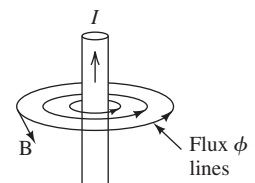

FIGURE 12.2 Magnetic field around a wire.
Magnetic fields are created around current-conducting wires and permanent magnets. The field is created by electrical charges in motion. In a permanent magnet, this charge in motion is caused by the spin of electrons in the atoms. If the direction of motion of each electron is random, the atomic fields created by the random movement will cancel each other, and the overall structure will not have any magnetic property. If all electrons spin in the same direction, the atomic fields aid each other, producing a net external effect. This produces a magnetic property in the structure. In a wire, the field is created by the flow of charges (i.e., current) in the wire. The magnetic field can be visualized as lines of magnetic flux that form closed paths. Figure 12.2 represents a magnetic field (flux lines) created around a wire that carries current.
Vector B represents the magnetic flux density, in webers per square meter (Wb/m^2) or teslas (T). The flux density, vector B , has a direction tangent to the flux lines as shown in Figure 12.2. Vector dA is the increment of area on the surface. Here, dA is perpendicular to the surface. If the magnetic flux density is constant over the surface and perpendicular to the surface, using Equation (12.1), the flux can be simplified to: